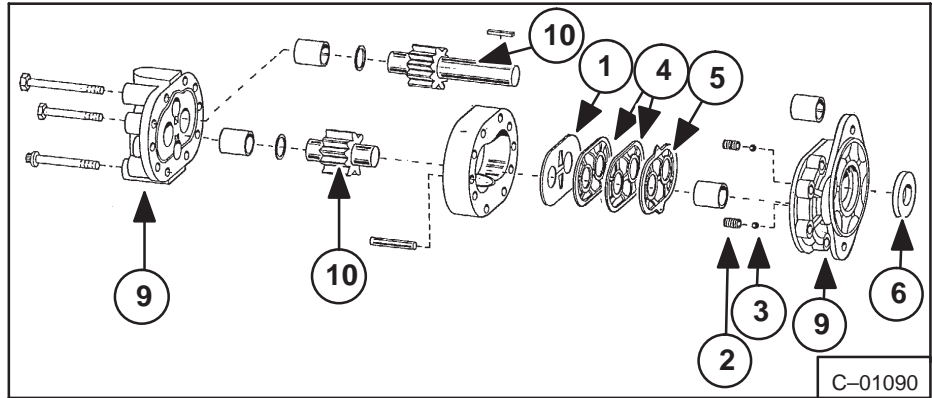

Fig. 4-38 Hydraulic Pump Breakdown (Cessna)
1. Remove key from pump drive shaft (Fig. 4-38).
5. Remove these items (Fig. 4-38) from front plate of pump.
- b. Springs (2)* Steel Balls (2) (Item 2 & 3)
- c. Gaskets (2) (Item 4)